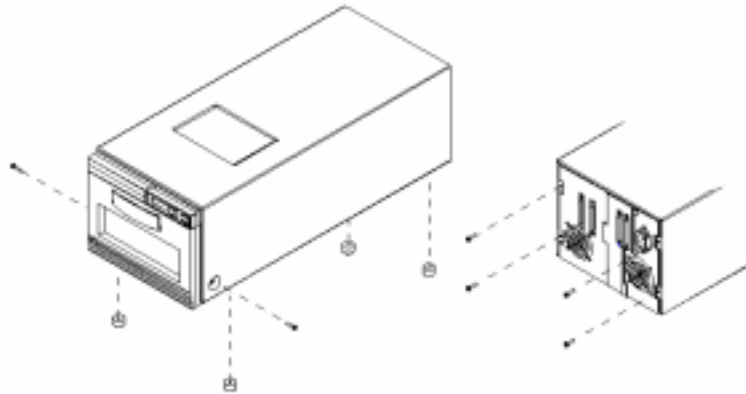

FIGURE 4-1 Removing the Feet
- a. **On the failed unit, remove the four screws on the back of the cover and the two screws on the side of the cover (FIGURE 4-1 on page 4-3).**
5. Install the cover and feet in the same position as FIGURE 4-1.